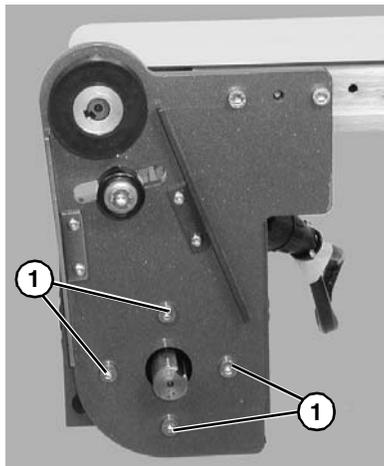

Figure 28
- Remove four (4) gearmotor mounting screws (**Figure 28, item 1**). Remove gearmotor with adapter plate.
- Install new gearmotor to adapter plate and mounting bracket. Tighten screws (**Figure 28, item 1**) to 103 in-lb (12 Nm).